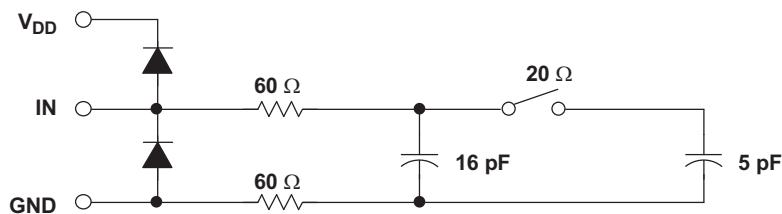

Figure 27. Typical Equivalent Sampling Circuit
(1) Ideal input span; does not include gain or offset error.
(2) See Figure 27 for details on the sampling circuit.
(3) LSB means least significant bit.
(4) Measured relative to an ideal full-scale input.
(5) Calculated on the first nine harmonics of the input frequency.